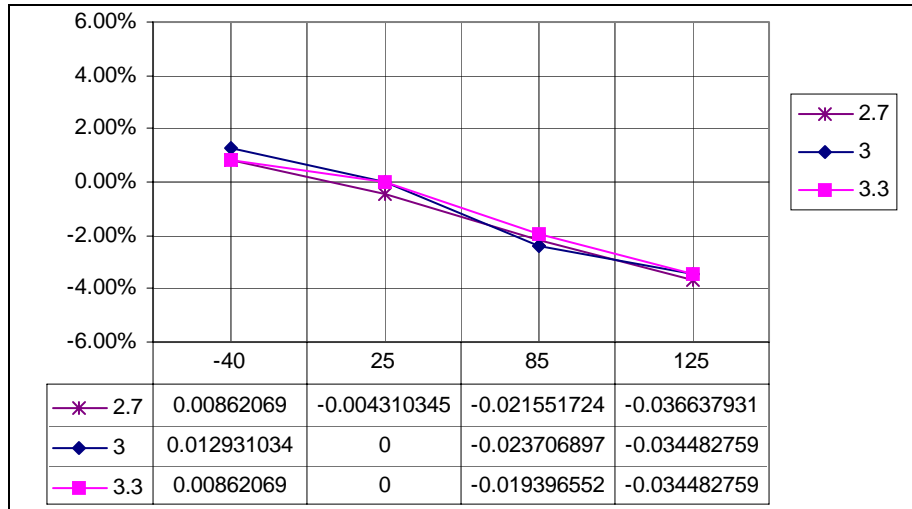
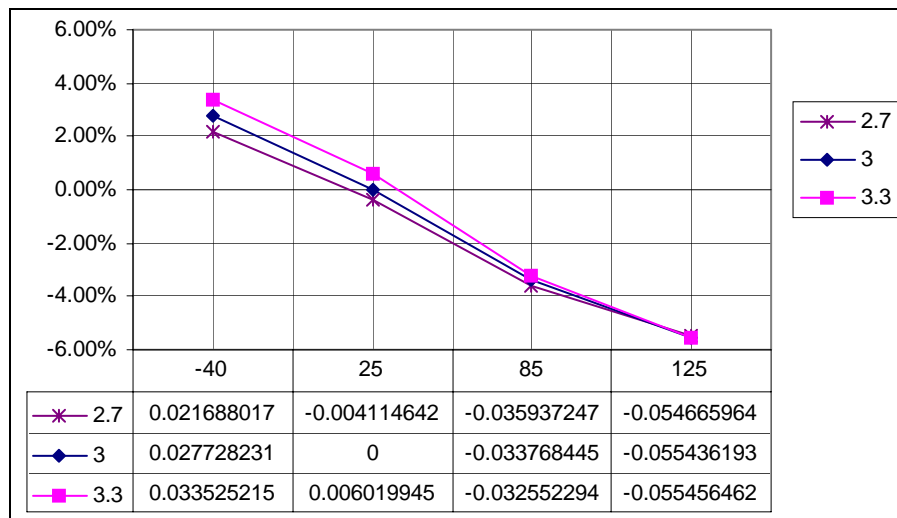
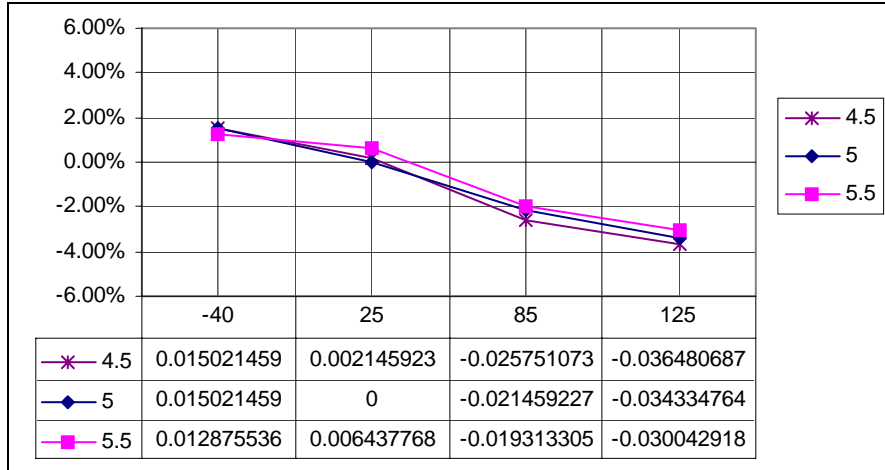
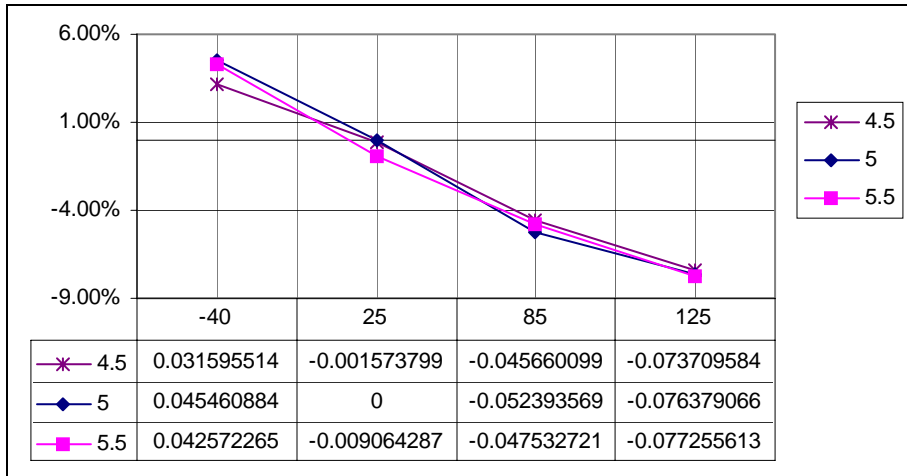

Figure 17-1. Example of Frequency Variation Across Temperature, Trimmed at Nominal 3 Volts, 25°C, and N = 1
Figure 17-2. Example of Frequency Variation Across Temperature, Trimmed at Nominal 3 Volts, 25°C, and N = 104
Figure 17-3. Example of Frequency Variation Across Temperature, Trimmed at Nominal 5 Volts, 25°C, and N = 1
Figure 17-4. Example of Frequency Variation Across Temperature, Trimmed at Nominal 5 Volts, 25°C, and N = 104
Figure 17-1 through Figure 17-4 illustrate typical performance. The formula for this variation of frequency is $(\text{measured-nominal})/\text{nominal}$. Figure 17-1 shows the variation in ICG frequency for a part trimmed at nominal voltage and temperature across V_{DD} and temperature for a 3-V application with multiply register (N) set to 1. Figure 17-2 shows 5 V.
Figure 17-3 and Figure 17-4 shows N set to 104, hex 68, which corresponds to an ICG frequency of 31.9 MHz or 7.9 MHz bus.